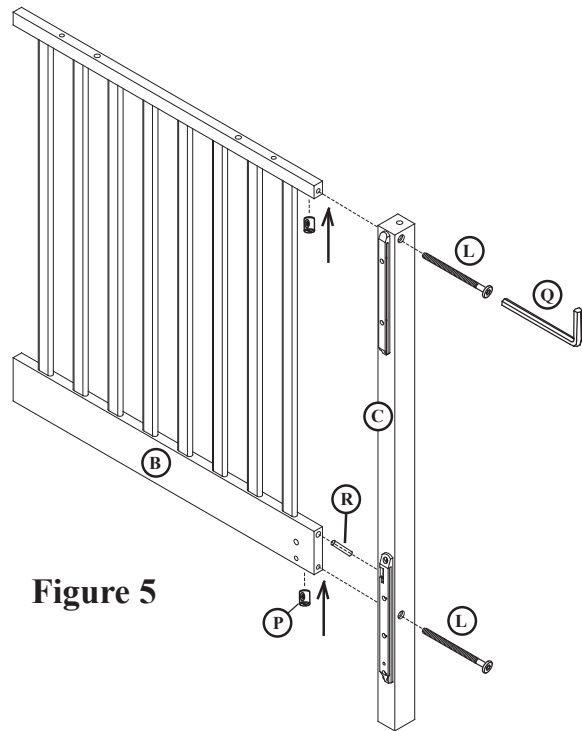

Figure 5
Attach the Front leg(C) to the crib end bottom(B) rail using wood dowels (R) and Bolts(L) & Barrel nuts(P),see Figure 5. Repeat on the other end.